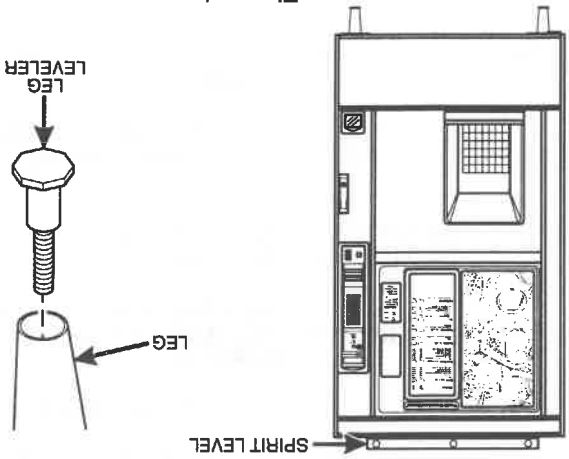

Figure 1
- a. Place a spirit level on the top front edge of the cabinet with the door fully closed. Adjust the front legs only until the cabinet is reasonably level (figure 1).